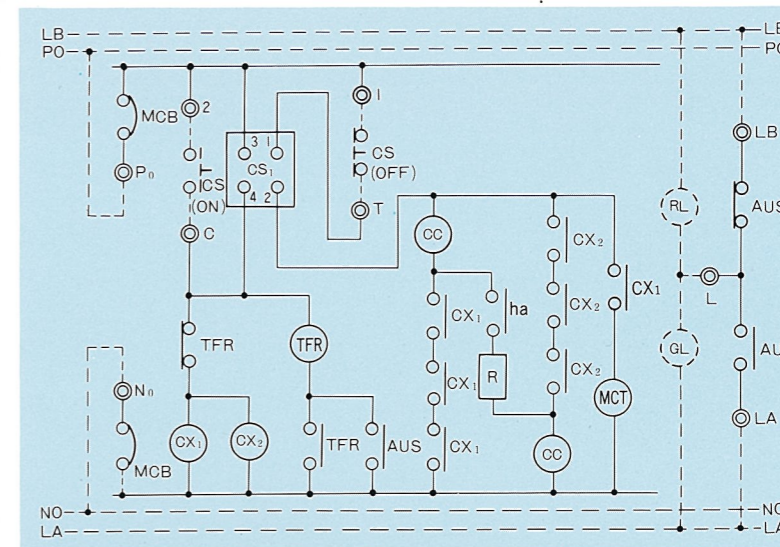

Fig. 8 Control circuit diagram (for DC 100V operation)
- (1) As a result of a normally energized closing holding system having been employed, the link mechanism has been simplified successfully and at the same time, the latch has been discontinued.
- (2) Allowable pressure working on the pressure receiving face of rotary part and allowable stress on the moving part and moved part, and springs have been kept lower than the design standard of electric circuit breaker for electric power.
- (3) An oil dash pot has been provided to buffer shock occurring in tripping operation. (Mechanical life 150,000-times)
The closing operation is accomplished as follows: When an electrical closing signal is given, solenoid are excited and armature ① is drawn upward, a lever secured to operating main shaft ② is pushed up and the operating main shaft ② rotates counter-clockwise to draw operating insulation rod ③ downward and at the same time, opening spring ④ is charged. When the operating insulation rod moves downward, link ⑤ turns counter-clockwise, idle link ⑥ moves upward to close the contact of vacuum interrupter and contact spring is compressed, completing the closing operation. While on the other hand, just before completion of the closing operation, a resistor is connected in series to the closing coil by a contact "ha" of auxiliary switch of this vacuum switch. The result is that closing current is changed over to holding current and closing condition is maintained by electro-magnetic force of solenoid due to this holding current. The operating mechanism has such construction as mentioned above. Fig. 8 shows the control circuit diagram.